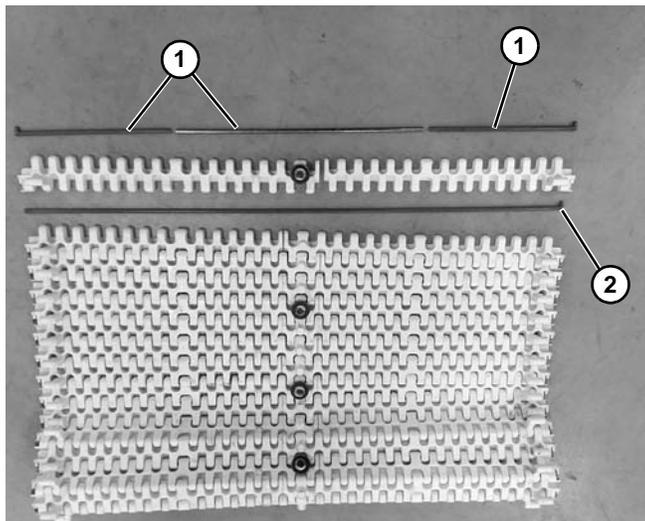

Figure 30
On 610 mm wide conveyors, DO NOT remove rods located at the bearing. These links are made up of 3 short rods (Figure 30, item 1), not a single piece rod (Figure 30, item 2).